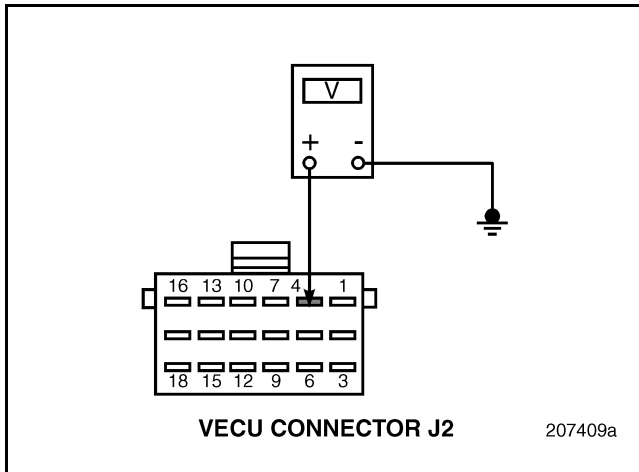

Figure 255
4. Measure the voltage between VECU connector J2 pin 4 and a good ground (see Figure 255).